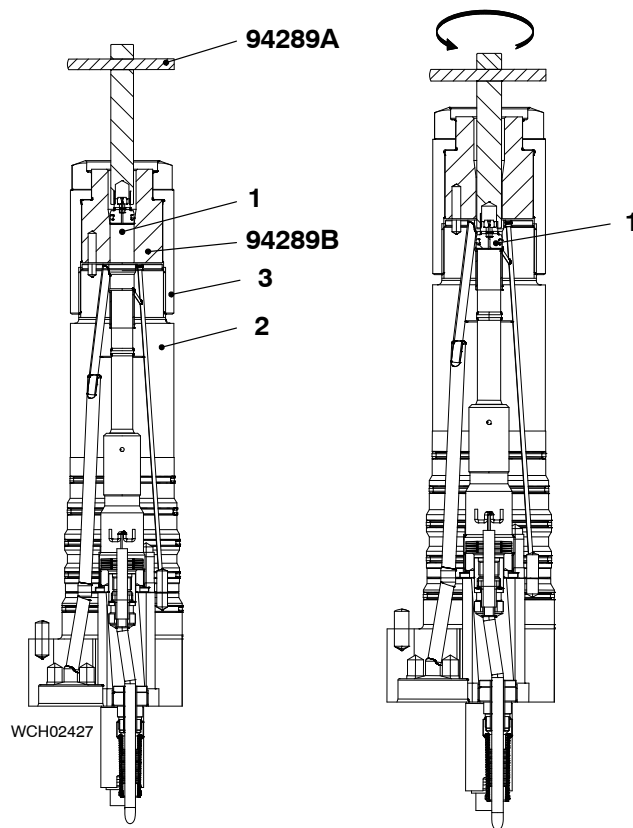

Fig. 7
- 1) Install the pilot valve (1, Fig. 7) in the injection valve (2) as follows:
**Note: When you do the step below, it is not necessary to torque the coupling nut (3).**
- 2) Attach the coupling nut (3) to the injection valve (2).
- 3) Attach the bush (94289B) to the coupling nut (3).
- 4) Engage the T-handle with the pilot valve (1).
- 6) Turn the T-handle to install the pilot valve (1).